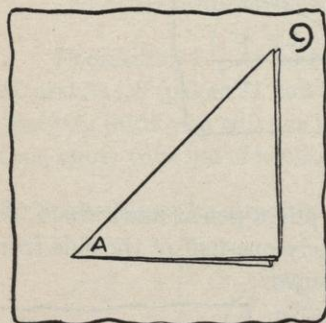

FIG. 9.
- (4) Fold the square again on the diagonal line that you have just drawn (see Figure 9).